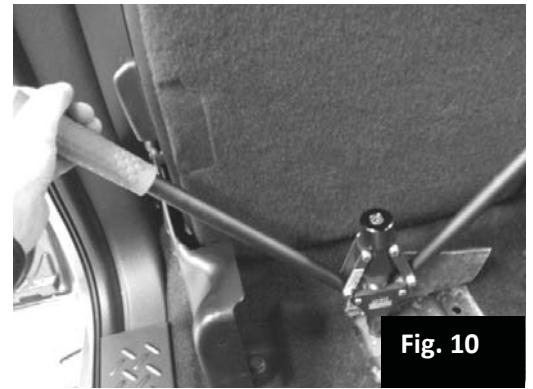

Fig. 10
21. Cut the carpet along all the dotted lines on the template. When you are finished you will have two flaps, one large and one small. Pull back the two flaps and cut away all the carpet insulation beneath. Fig. 10